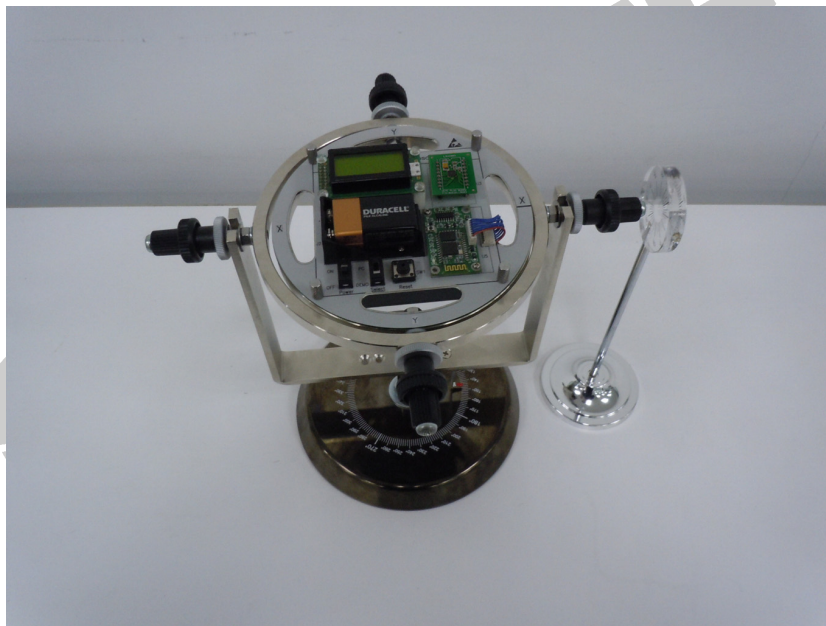

Fig. 6-3 Configuration 1
2. Place the KL-67101 XY-Axis Angle Plate in front of the Y-Axis Rotary knob, as shown in Fig. 6-3.